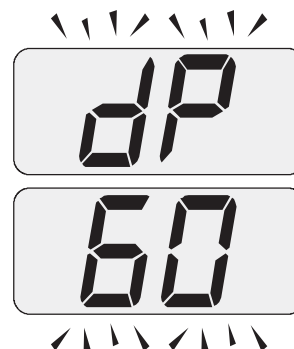

Figure 11.9
- 21 Press further key "G" to vary again the output in chimney sweep mode: when the display shows the letters **dp** that alternate with the heating water temperature value (e.g. 60), the "chimney sweep function" is at maximum output in domestic hot water mode" (Figure 11.9);